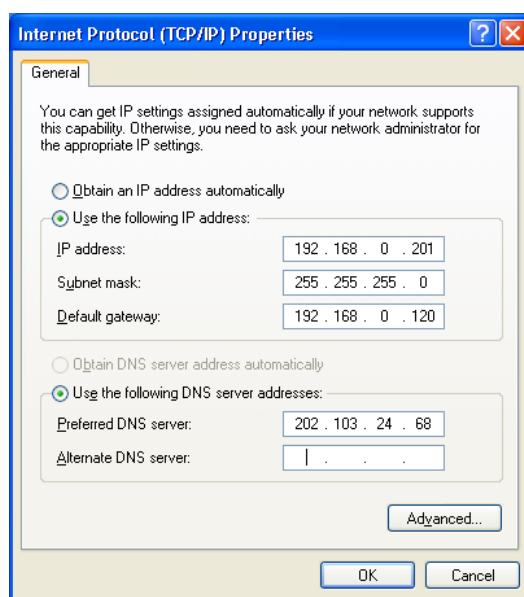

Figure 7.3.2-1 Setting up IP address at the PC
Step 2: set the PC's IP address to be within the same network segment as the FTR-100, for example, IP: 192.168.0.201, Subnet mask: 255.255.255.0, as shown in Figure 7.3.2-1.